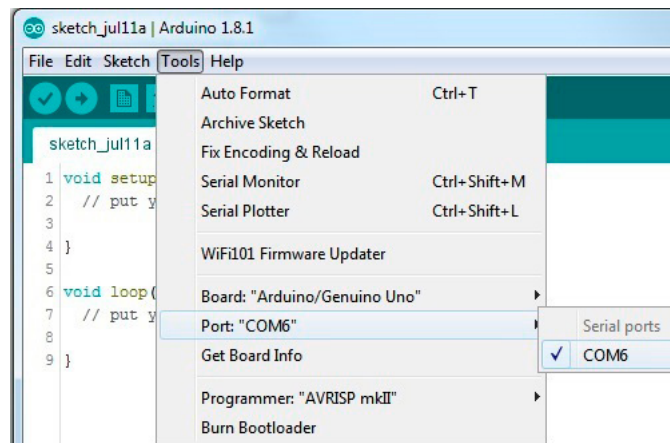

Figure 6. Selecting Correct COM
- Select the correct COM port to allow communication to DC2026 through USB. Under the **Tools** menu, select **Port** → Select the highest number **COMxx** with the ✓ check mark symbol. There may be more than one option; DC2026 is usually the highest COM port number. The PC screenshots (Figure 6) used in this example show the DC2026 connected to COM6.